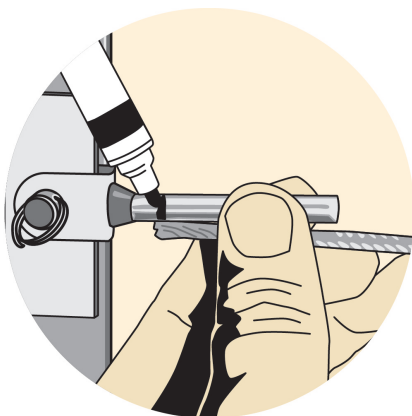

Fig 13
- a) Insert a piece of cable into the installed European Jaw Fitting and mark on the fitting that indicates how far the cable penetrates (Fig. 13).